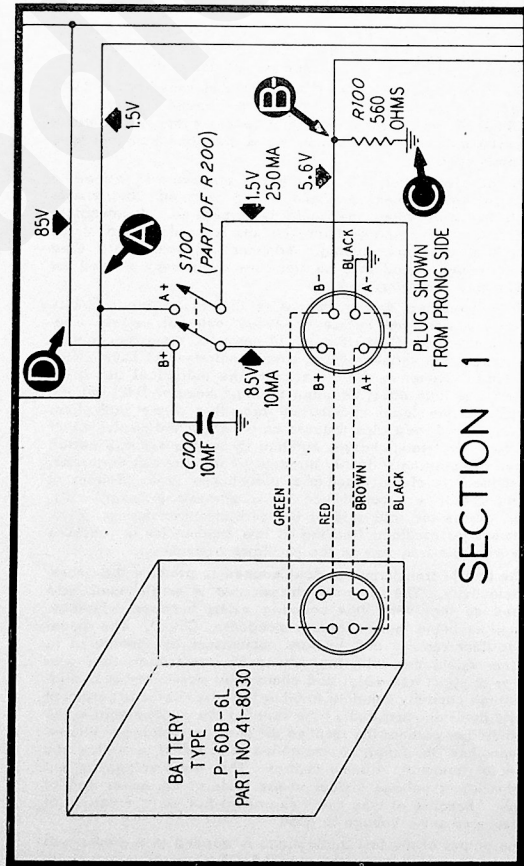

Figure 1. Section 1 schematic.
2. Before turning on the radio power, disconnect the battery, and check the resistance between B+ and chassis (test points D and C, figures 1 and 2) with the ohmmeter polarity such that the highest resistance reading is obtained; if lower than 100,000 ohms, check condenser C100 for leakage or short.